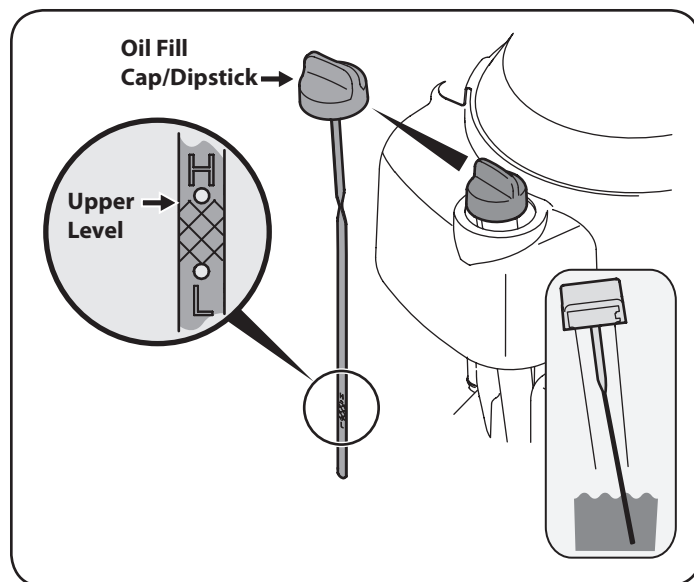

Figure 17
2. Insert the dipstick into the oil filler neck. Turn the dipstick 1/4 turn into the locked position to fully seat. See Figure 17.
4. If the level is low, slowly add oil until the reading is at the upper level on the dipstick. See Figure 17 inset.